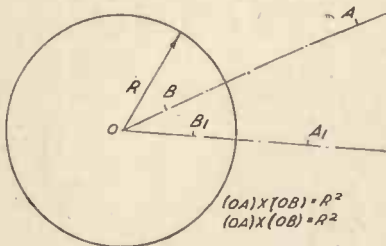

Fig. 1.—This diagram shows the basis of the field theory.
The basis of the field theory is illustrated in Fig. 1. If a point A outside a circle is taken at a distance OA from the centre, it is obvious that another point, B can be found inside the circle, at a distance OB from the centre, such that (OA) x (OB) is equal to